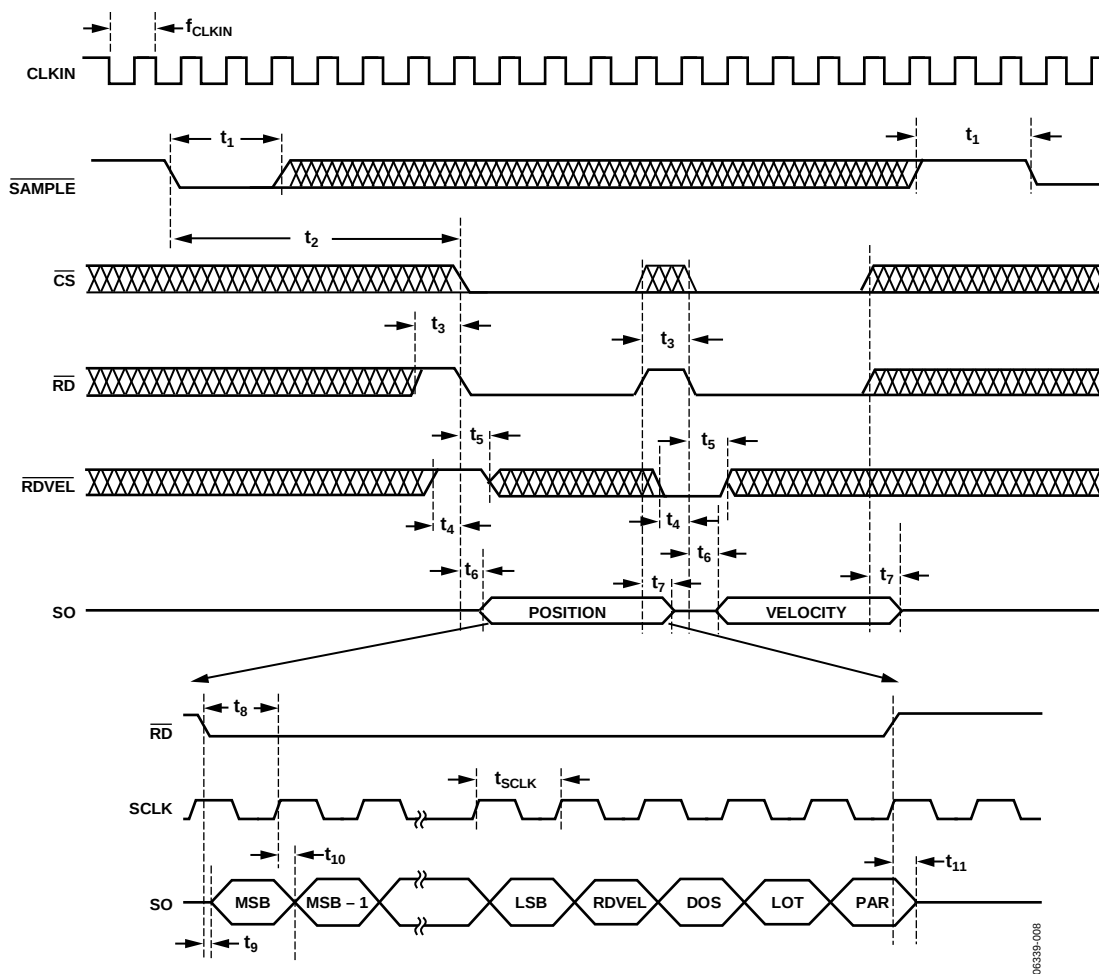

Figure 8. Serial Port Read Timing
The angular position and velocity are available on the AD2S1205 in two 12-bit registers. These registers can be accessed via a 3-wire serial interface (SO, $\overline{\text{RD}}$, and SCLK) that operates at clock rates of up to 25 MHz and is compatible with SPI and DSP interface standards. The serial interface is selected by holding the $\overline{\text{SOE}}$ pin low. Data from the position and velocity integrators are first transferred to the position and velocity registers using the $\overline{\text{SAMPLE}}$ pin. The $\overline{\text{RDVEL}}$ pin selects whether data is transferred from the position or velocity register to the output register, and the $\overline{\text{CS}}$ pin must be held low to transfer data from the selected register to the output register. Finally, the $\overline{\text{RD}}$ input is used to read the data that is clocked out of the output register and is available on the serial output pin (SO). When the serial interface is selected, DB11 is used as the serial output pin (SO), DB10 is used as the serial clock input (SCLK), and Pin DB0 to Pin DB9 are placed into the high impedance state. The timing requirements for the read cycle are described in Figure 8.
The output shift register is 16 bits wide. Data is clocked out of the device as a 16-bit word by the serial clock input (SCLK). The timing diagram for this operation is shown in Figure 8. The 16-bit word consists of 12 bits of angular data (position or velocity, depending on $\overline{\text{RDVEL}}$ input), one $\overline{\text{RDVEL}}$ status bit, and three status bits (a parity bit, a degradation of signal bit, and a loss of tracking bit). Data is clocked out MSB first from the SO pin, beginning with DB15. DB15 through DB4 correspond to the angular information. The angular position data format is unsigned binary, with all 0s corresponding to 0° and all 1s corresponding to 360° – 1 LSB. The angular velocity data format is twos complement, with the MSB representing the rotation direction. DB3 is the $\overline{\text{RDVEL}}$ status bit, with a 1 indicating position and a 0 indicating velocity. DB2 is DOS, the degradation of signal flag (refer to the Fault Detection Circuit section). Bit 1 is LOT, the loss of tracking flag (refer to the Fault Detection Circuit section). Bit 0 is PAR, the parity bit. The position and velocity data are in odd parity format, and the data readback always contains an odd number of logic highs (1s).